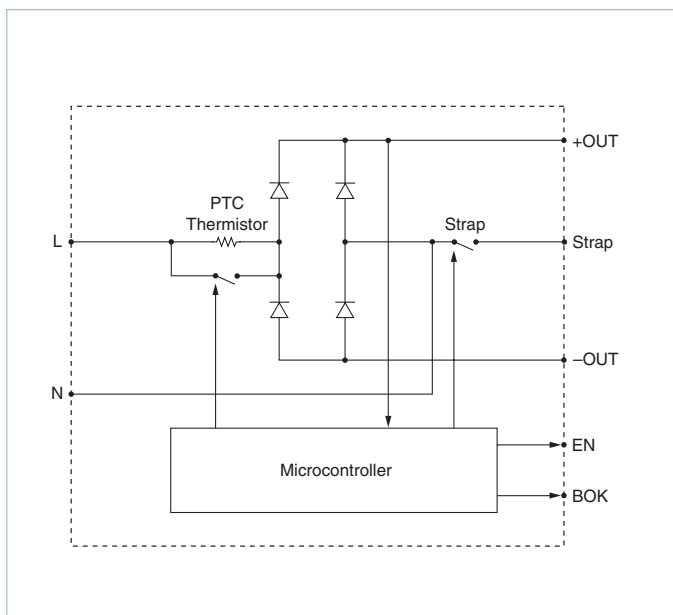

Figure 8 — Functional block diagram
**Initial Conditions:** The switch that bypasses the inrush limiting PTC (positive temperature coefficient) thermistor is open when power is applied, as is the switch that engages the strap for voltage doubling. (See Figure 8). In addition, the downstream DC-DC modules are disabled via the Enable (EN) line, and Bus-OK (B OK) is high.